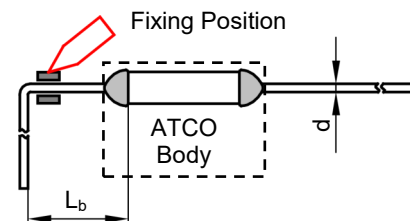

FIGURE C-2
2. When bending leads, please use pincher or similar tools to fix the product as shown in Fig.C-2, to avoid damaging the product.